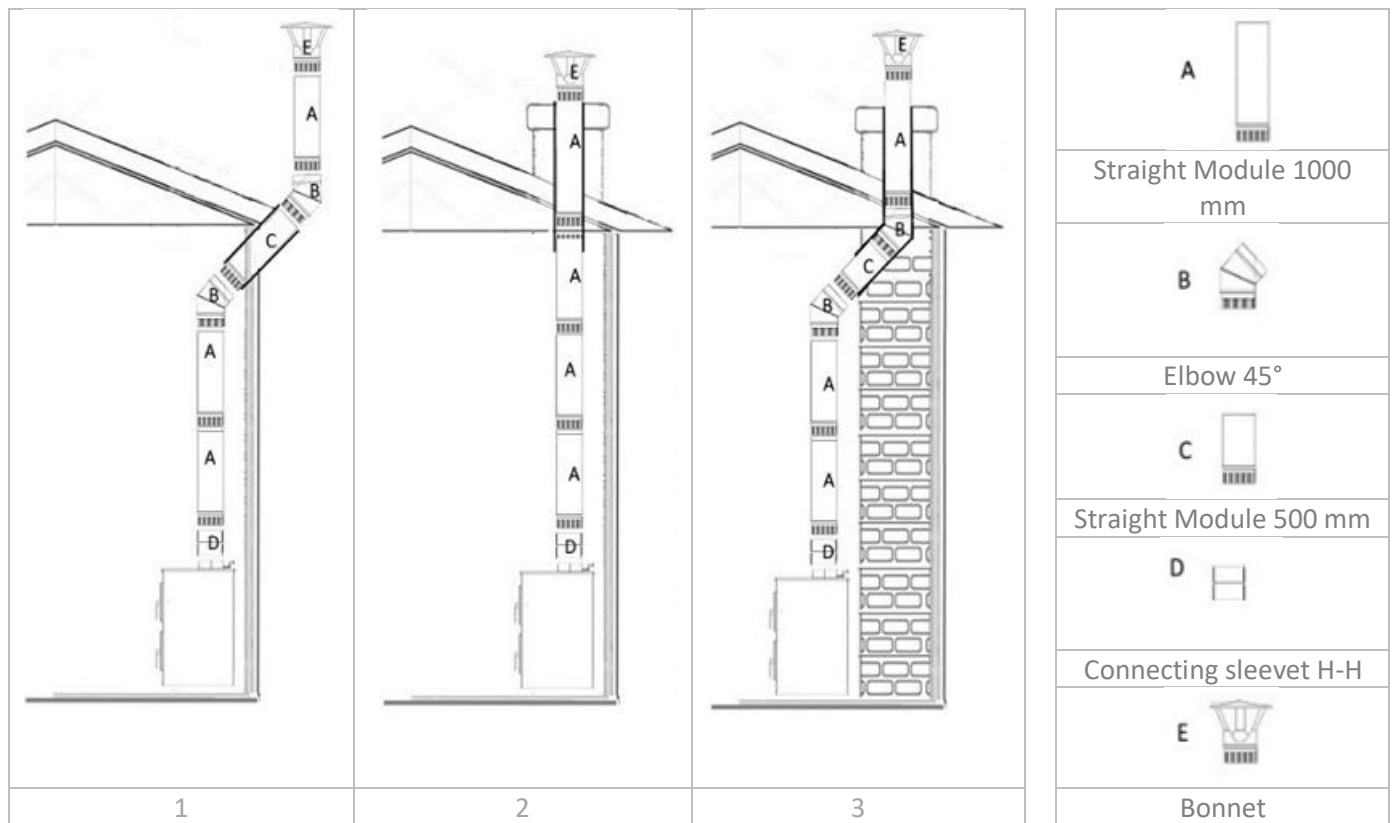

Figure 2
- 3. VERTICAL SECTION (A).** The total length of the vertical pipe required to reach the roof for natural draught (flue gas depression) can vary from installation to installation, depending on various factors, but generally ranges from approximately 4 m to 6 m. However, optimal performance is guaranteed with a minimum vacuum of approximately ± 15 Pa (pascals).
- 4. BENDS (B).** If bends are required (see drawings 1 and 2 in Figure 2), the ducts will be connected using elbows. These may be up to 45° and must not be narrowed. The following must also be considered:
- 5. HORIZONTAL SECTION (C).** The connecting duct or horizontal section of the chimney must be designed with the minimum possible length and avoiding changes in direction and section as much as possible. The following must be taken into account accordingly:
- 6. UNION SLEEVE (D).** For the correct connection of the vertical duct with the flue outlet collar m (male) of the cooker, a socket h/h (female/female) is required so that the end m (male end of the vertical duct faces downwards).
- 7. CHIMNEY CAP (E).** For proper smoke evacuation and to prevent wind influences, certain minimum distances from the chimney cap are required. See the following figure: